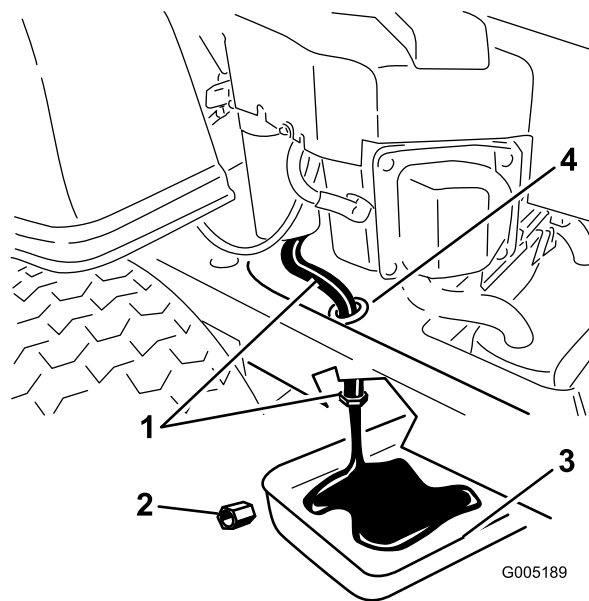

Figure 29
5. Locate the oil drain hose on the left side of the engine. The drain plug is attached to a drain hose routed through a drain hole in the machine frame (Figure 29). Clean the area around the oil drain plug cap and the oil drain hose.
6. Place a pan underneath machine directly below the oil drain hose as shown in Figure 29.
7. Using two wrenches (one to hold the oil drain hose and one to loosen the plug), remove the oil drain plug (Figure 29).
13. When oil has drained completely, install the oil drain plug. Tighten the plug to 14 N-m (125 in-lb) torque. Wipe up any excess oil (Figure 29).